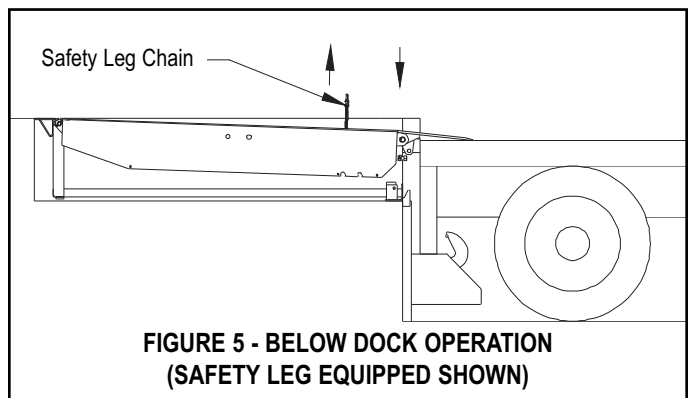

FIGURE 5 - BELOW DOCK OPERATION (SAFETY LEG EQUIPPED SHOWN)
2. When lip is fully extended, release RAISE button. If equipped with safety legs, pull and hold the Safety Leg Chain as the leveler lowers automatically onto the truck/trailer bed. See figure 5.